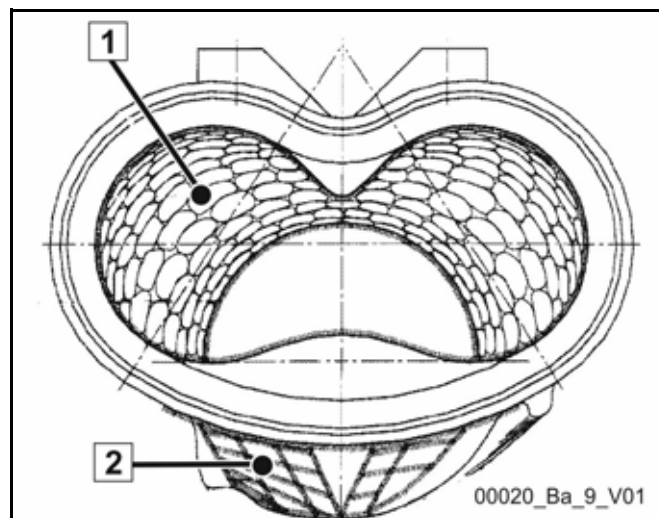

Fig. 348 Armoured swivel head (rock)
- armoured swivel head, see **(Fig. 348)**,
Caption (Fig. 348)